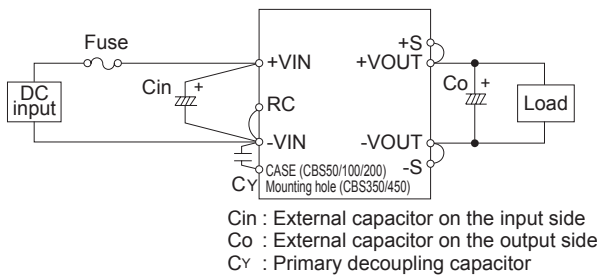

Fig.1.1 Connection for Standard Use
■ The power module needs input and output connections as shown in Fig. 1.1.
(2) Noise Filter/Grounding Capacitor
■ A grounding capacitor C_Y must be used to reduce the line noise on the input line and stabilize the power module operation (Fig. 1.1). Note that resonance and inductance from the input line filter may cause the power module to become unstable.
(3) External Capacitor on the Input
■ An external capacitor C_{in} must be installed between +VIN and -VIN to reduce line noise and stabilize the power module operation (Fig. 1.1).
■ Install an external capacitor C_o between +VOUT and -VOUT to increase stability of output (Fig. 1.1).